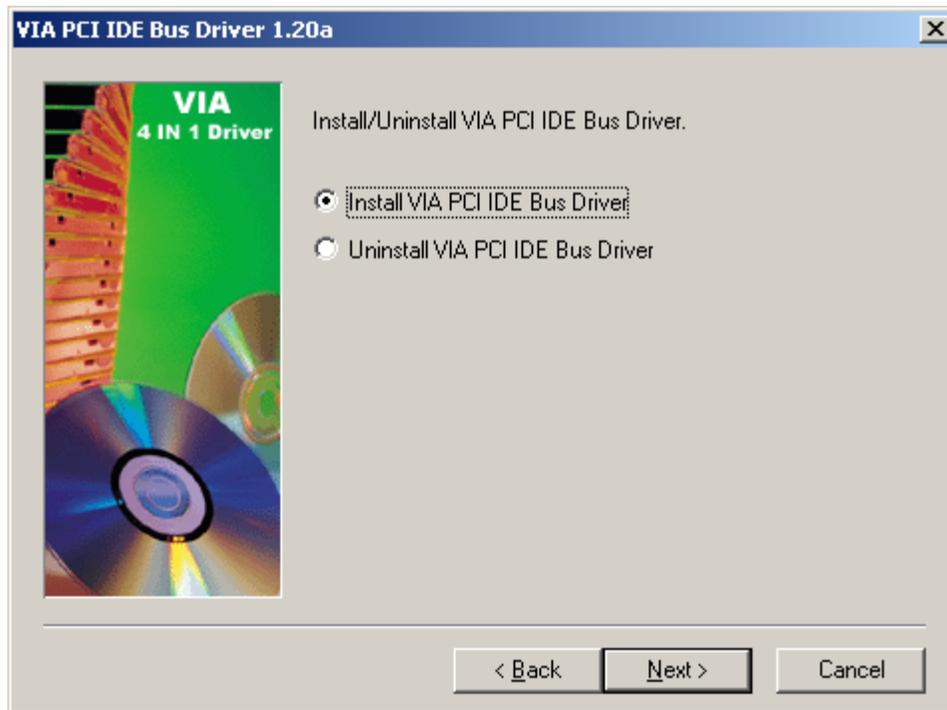

Figure 6-8: VIA PCI IDE Bus Driver Selection
Step 9: The setup then prompts the user (see **Figure 6-8**) if the VIA PCI IDE Bus Driver must be installed on the system. Select install or uninstall. Click "**NEXT**" to continue the installation.